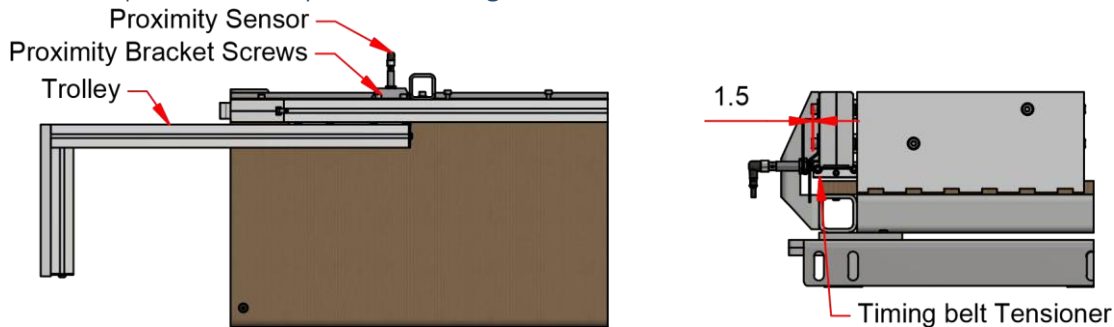

Figure 8, Apollo proximity sensor configuration
- Position the proximity sensor to the rear of the timing belt tensioner as shown in Figure 8.